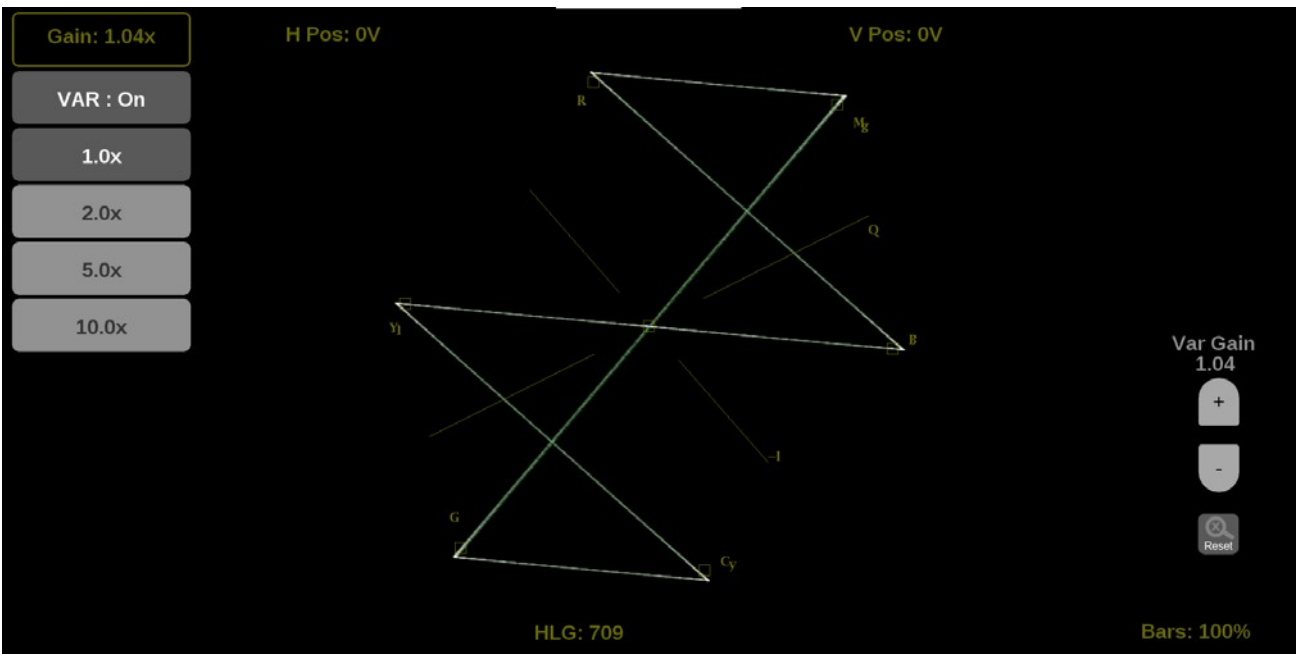

Figure 103: Vector on-screen tools – Gain
1. Select the **Gain** button to expand the available magnification options drop down list. (See Figure 103.)